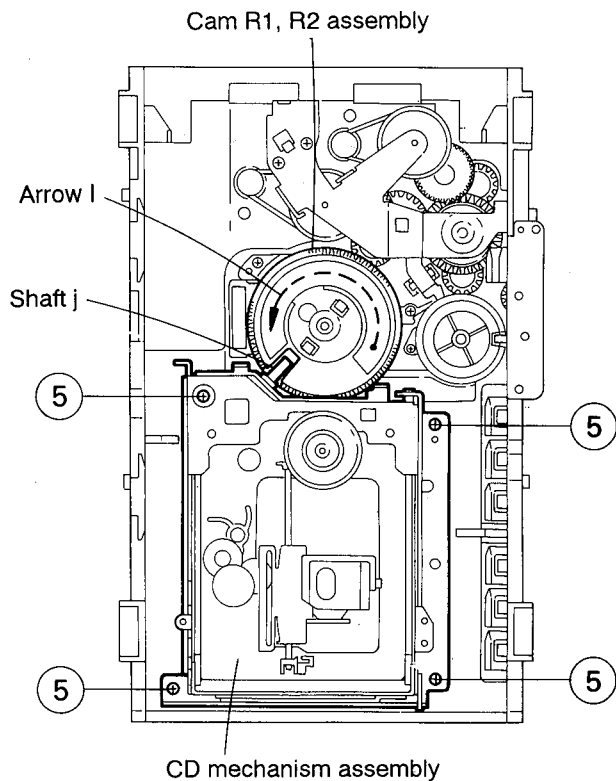

Fig. 2-19
## ■ Removing the CD mechanism assembly (See Fig. 2-19).
1. While turning the cams R1 and R2 assembly in the arrow direction (I), align the shaft (J) of the CD mechanism assembly to the position shown in Fig. 2-19.
2. Remove the four screws ⑤ retaining the CD mechanism assembly (See Fig. 2-19).